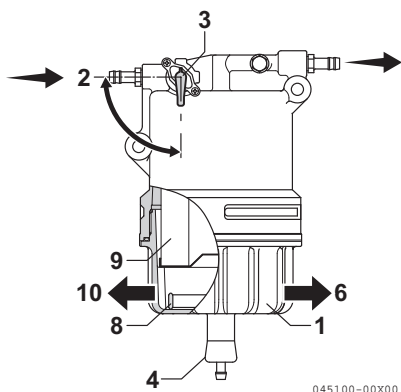

Figure 18
1. Position an approved container under the cup (**Figure 18, (1)**) of the water separator to collect the contaminants.
2. Close (**Figure 18, (2)**) the fuel valve (**Figure 18, (3)**).
3. Loosen the drain valve (**Figure 18, (4)**) and drain the contaminants. See *Drain water separator on page 71*.
4. Turn the cup (**Figure 18, (1)**) to the left (**Figure 18, (10)**) and remove the cup (**Figure 18, (1)**). If equipped, disconnect the sensor wire from the cup before removing the cup.
7. Clean the element (**Figure 18, (9)**) and inside cup. Replace the element if it is damaged.
11. Install the cup to the body by tightening the cup to the right (**Figure 18, (6)**) to 18 - 22 N·m (1.8 - 2.2 kfg·m).
13. Open the fuel valve (**Figure 18, (3)**).
6. Remove the float ring (**Figure 18, (8)**) from the cup. Pour the contaminants into the container and dispose of it properly.